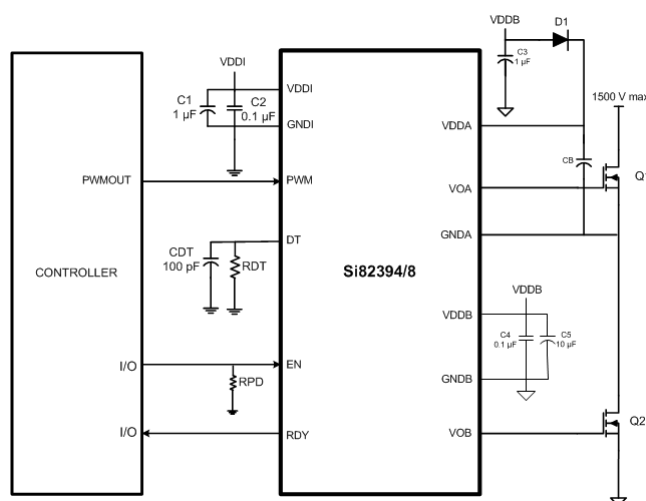

Figure 3.1. Si82394/8 Application Diagram
All high-side/low-side drivers (Si82394/8) include programmable dead time, which adds a user-programmable delay between transitions of VOA and VOB. When enabled, dead time is present on all transitions. The amount of dead time delay (DT) is programmed by a single resistor (RDT) connected from the DT input to ground per the equation below. Note that the dead time pin should be connected to GND1 through a resistor between the values of 6 kΩ and 100 kΩ and a filter capacitor of 100 pF in parallel as shown in Figure 3.1 Si82394/8 Application Diagram on page 18. It is highly recommended it not be tied to VDD1. See Figure 2.18 Dead Time Waveforms for High-Side/Low-Side Drivers on page 17 below.